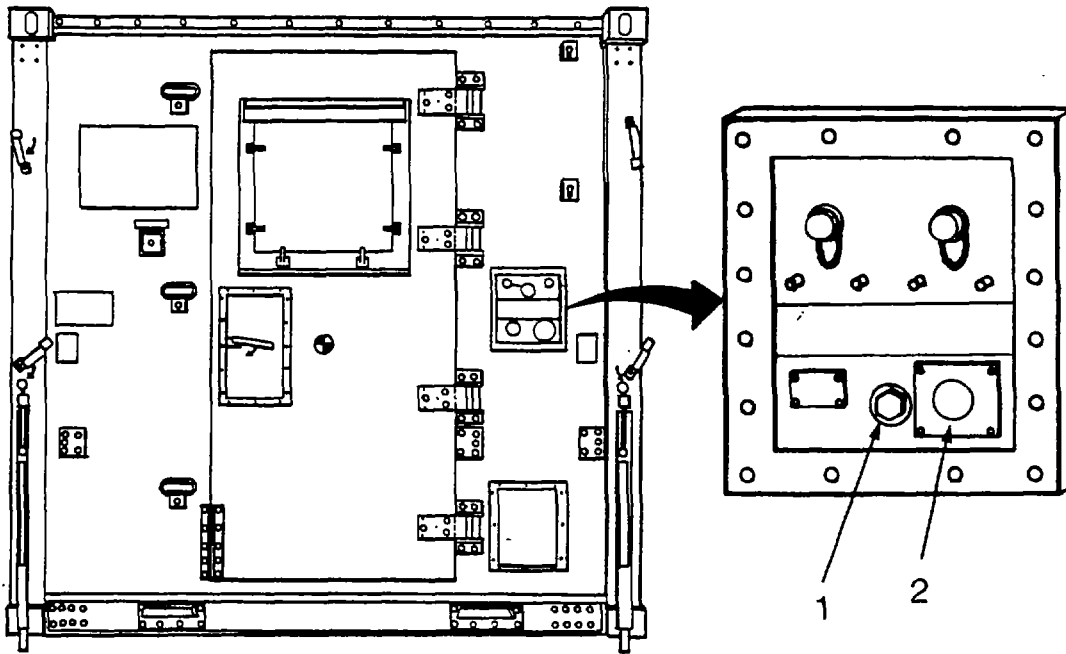
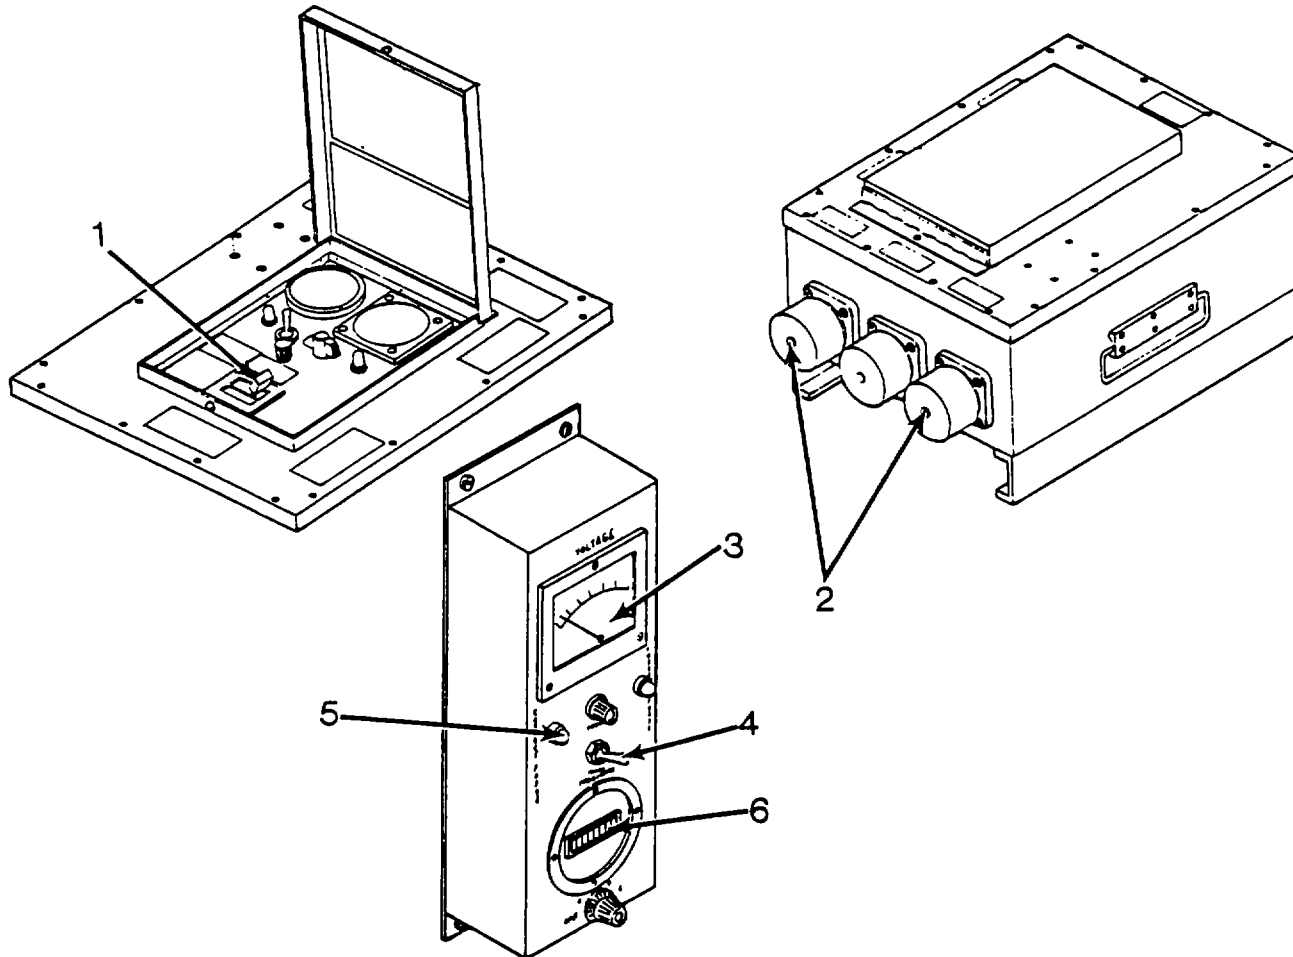

Figure 2-16. Power Cable Connections to Press Section Shelter
Figure 2-17. Power Distribution Box Controls and Indicators
(1) Install grounding rod.
(2) Verify that main circuit breaker CB1 (1) on the Power Distribution Box is in the OFF position. Refer to Figure 2-17 for location of controls and indicators on Power Distribution Box and phase monitor meter.
(3) Connect grounding rod grounding line to shelter ground lug (1, Figure 2-16). Connect power cable to the Press Section receptacle (2, Figure 2-17) on the Power Distribution Box and to the Press Section shelter power input receptacle (2, Figure 2-16).
(4) Notify Module C operator that you have completed connecting your shelter to the Power Distribution Box. Wait until Module C supervisor has set main circuit breaker CB1 on Power Distribution Box to ON position before performing step (5).
- (5) Read voltage meter (3, Figure 2-17) on phase monitor meter. Voltage must read between 110 and 120 Vac on phases A, B, and C.
- (6) Push down test phase switch (4). Correct phase lamp (5) should light.
- (7) Read frequency meter (6). Frequency must read 60 ± 1.0 Hz on phases A, B, and C.
- (8) Place all circuit breakers and switches on the Power Distribution Panel inside the shelter in the ON position.
- (9) Install flexible duct between air conditioner assembly vent and rear shelter wall.